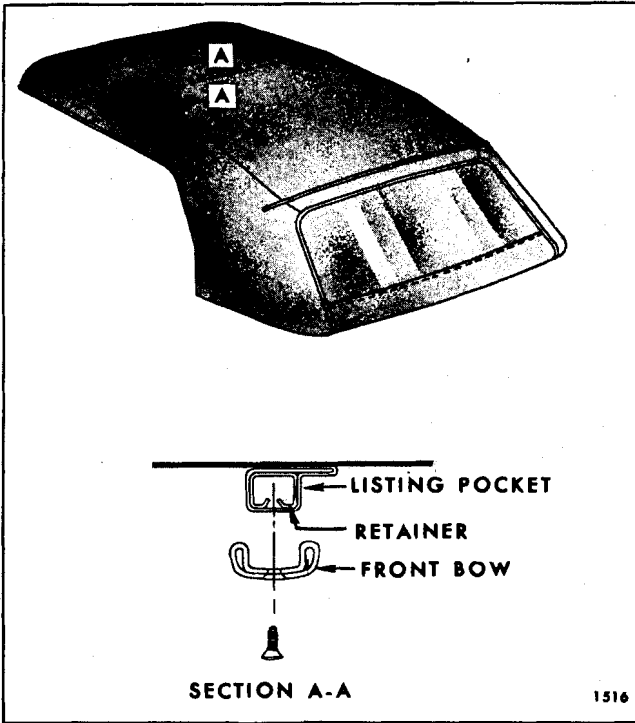

Fig. 12-3-Listing Pocket Retainer
8. At underside of front bow, remove screws securing listing pocket retainer to front bow. Disengage retainer from bow and remove retainer from listing pocket. Note location of screws before removal (See Fig. 12-3).
11. Insert and center retainer in top cover listing pocket at front roof bow. Position retainer on front bow and install attaching screws (Fig. 12-3).
8. At underside of front bow, remove screws securing listing pocket retainer to front bow. Disengage retainer from bow and remove retainer from listing pocket. Note location of screws before removal (Fig. 12-3).